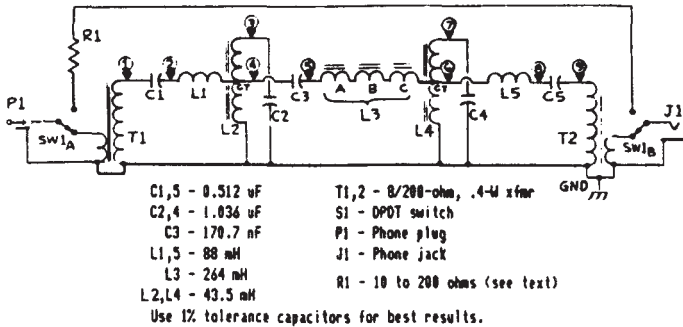

Figure 1. Schematic diagram of 750-Hz c.w. filter.
Figure 1 shows the filter schematic diagram and component values of the one-stack c.w. filter. These values were selected for a center frequency of 750 Hz and for a filter impedance level of 230 ohms. The filter sees a 230-ohm source impedance consisting of the 200-ohm transformed 8-ohm source, a 22-ohm transformer winding resistance and an 8-ohm inductor resistance. In a similar way, the filter sees a load impedance of 230 ohms. This particular design was selected so that only one turn needs to be removed from both windings of a 44-mH inductor to give the required L2 and L4 values.
1. See Figures 1 and 2 for the filter node locations.